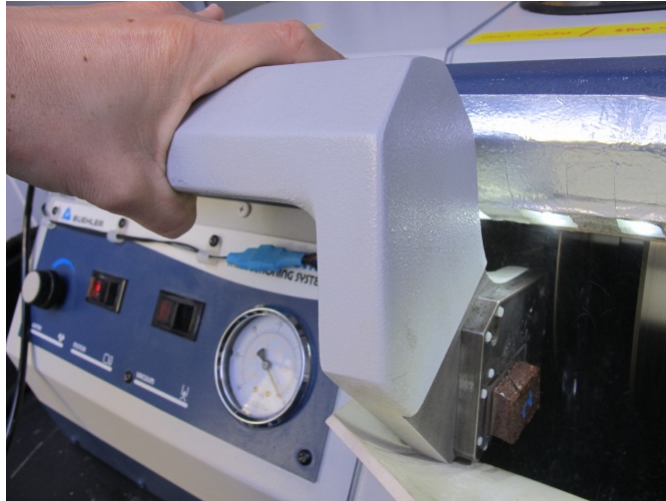

Figure 6
6. Push the chuck face all the way to the left and lower it down slowly (Fig. 6).